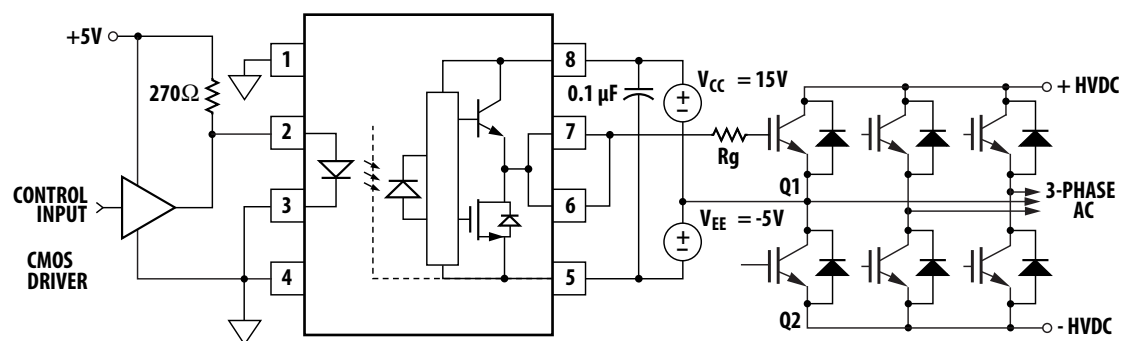

Figure 26. ACPL-312U typical application circuit with negative IGBT gate drive.
Step 1: Calculate R_g Minimum from the I_{OL} Peak Specification. The IGBT and R_g in Figure 26 can be analyzed as a simple RC circuit with a voltage supplied by the ACPL-312U.
For the circuit in Figure 26 with I_F (worst case) = 16 mA, $R_G = 8 \Omega$, Max Duty Cycle = 80%, $Q_G = 500 \text{ nC}$, $f = 20 \text{ kHz}$: